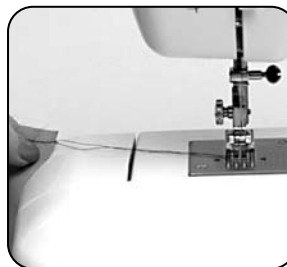

Fig. 3
10. Raise the presser foot and gently pull the fabric to the left, releasing at least six inches of thread from needle and bobbin [Fig. 3].